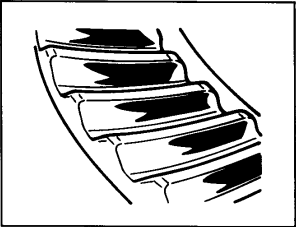

Figure 113A
- To correct a high contact pattern, **Figure 113A** decrease the thickness of the shim pack under the bearing cage. When decreasing the thickness of the shim pack, the drive pinion will move toward the ring gear. **Figure 116.**